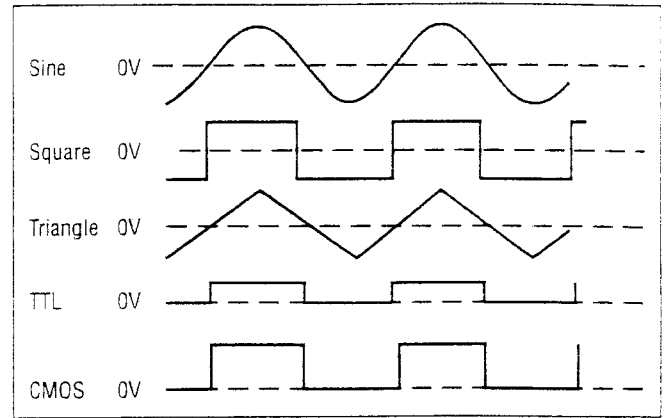

Figure 2. Output Waveform and Phase Relationship
- Initially, verify that the **DUTY CYCLE** (17), **CMOS LEVEL** (15), **DC OFFSET** (14), **-20dB** (11), and **SWEEP INT/EXT** (12), switches are in the OUT position (released). This will produce a symmetrical waveform unaffected by the sweep generator and other controls.
- Plug the unit into an appropriate power source and turn it on by engaging the **POWER** switch (1).
- Select the desired waveform (**SINE**, **SQUARE**, or **TRIANGLE**) by engaging one of the **FUNCTION** switches (3). Phase relationships of the waveforms are shown in Fig. 2.
- Select the frequency of the waveform by depressing one of the **RANGE** switches (2). The output frequency is displayed, along with the appropriate measurement units, KHz or Hz (23), on the LED display.
- Rotate the **COARSE** (20) frequency control to quickly set the output frequency to the approximate desired value. The **FINE** (19) frequency control can then be used to easily set the output to the specific desired value. The frequency selected is available at the **OUTPUT** jack (6). In addition, a digital signal, either **TTL** or **CMOS** is